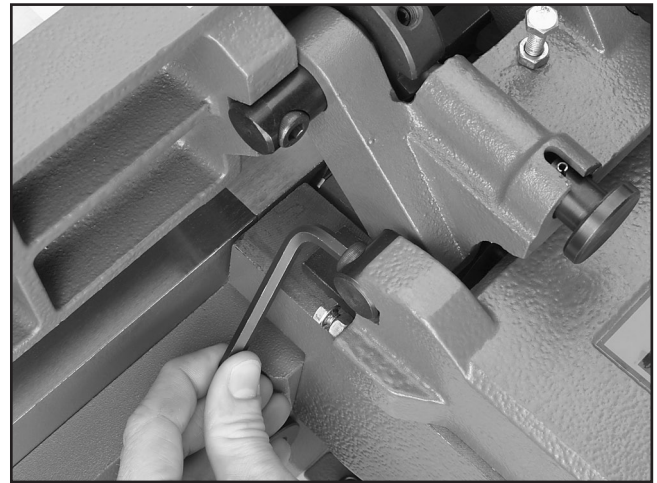

Figure 15. Attaching fence to carriage.
3. Attach the fence to the carriage, as shown in **Figure 15**.